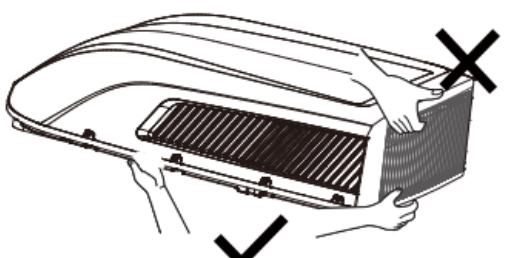

Figure 4-1
- a) When taking out the outdoor unit after unpacking, do not lift the air outlet grille at the back of outer case (see Figure 4-1).